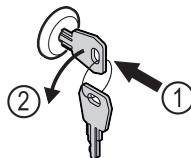

Fig. 160
- ▶ Insert the key. Fig. 160 (1)
- ▶ Turn the key anticlockwise by 90°. Fig. 160 (2)